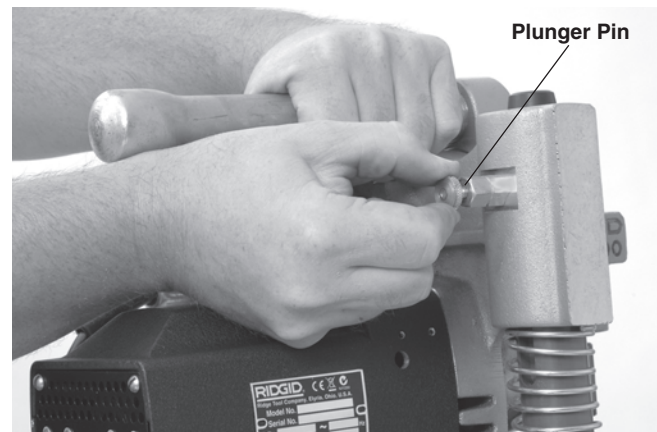

Figure 7 – Separating the Base and Motor Assemblies
- Broken, worn, missing, mis-aligned or binding parts. Make sure that the motor assembly moves smoothly and freely up and down the posts of the base assembly. Confirm that the chain and swivel handle move freely. On the HC-300, confirm that the plunger pin functions properly and retains the motor assembly to the base assembly (*Figure 7*).
1. With the HC-300 Hole Cutting Tool on a stable, secure surface, pull the plunger on the back of the left post (Figure 7) and lift the motor assembly off of the base assembly.